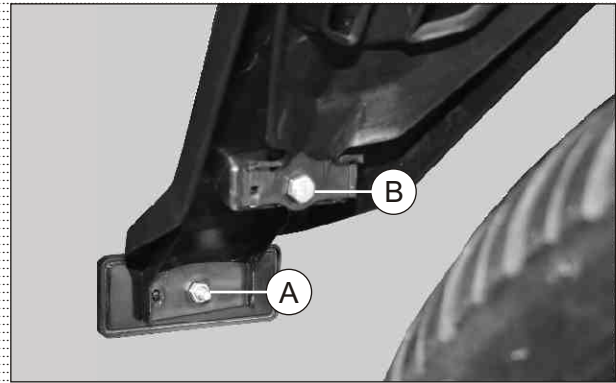

Fig. 6.136
- Remove hexagonal nut (A) from the reflex reflector mounting and take out reflex reflector. (Fig.6.136)
- Remove CRR pan head screw (B) (M6x16) from the flap rear fender bottom mounting. (Fig.6.136)